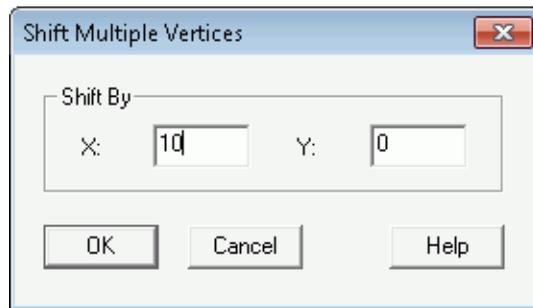

Figure 2.15 Setting the shift for a group of vertices
- 2 Type the desired shift in the Shift Multiple Vertices dialog box, as shown in Figure 2.15.